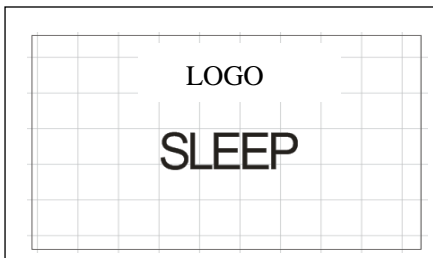

Fig.17
3. **Click Knob:** enter the standby state and “SLEEP” appears on the screen, as shown in figure 17. Click again to eliminate the state, the “SLEEP” on the screen disappears and the normal working state is displayed;